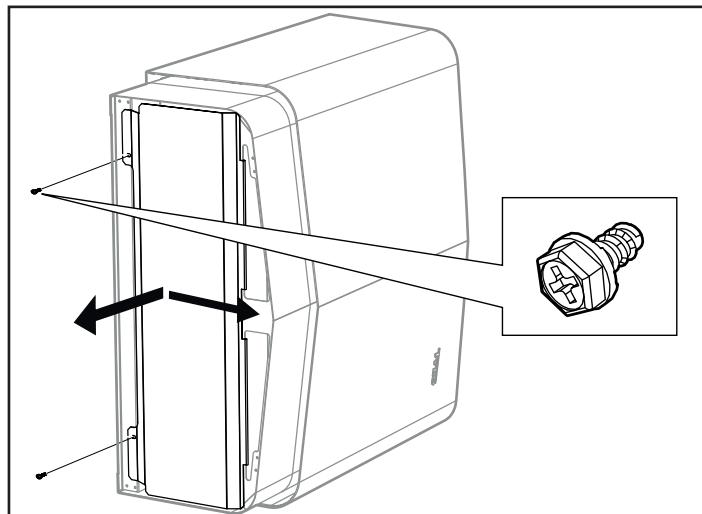

Figure 9: Opening/closing the cover
- Undo the screws and open the cover (see Figure 9).
4. Close the cover and tighten the screws (see Figure 9).